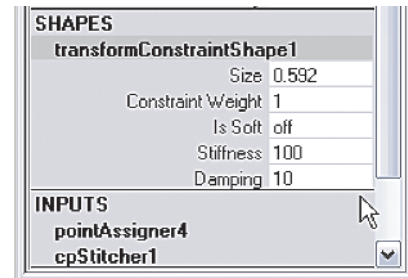

Figure 1.29: Transform constraint attributes
4. Create another constraint on the upper-right corner using locator2. As the cloth simulates, the constrained vertices follow the locators. In the Outliner, expand the hierarchy for `cloth1`. There will be two constraint nodes. Select `transformConstraint1` and look at the Channel box. Under the shape node are attributes for the constraint (see Figure 1.29).